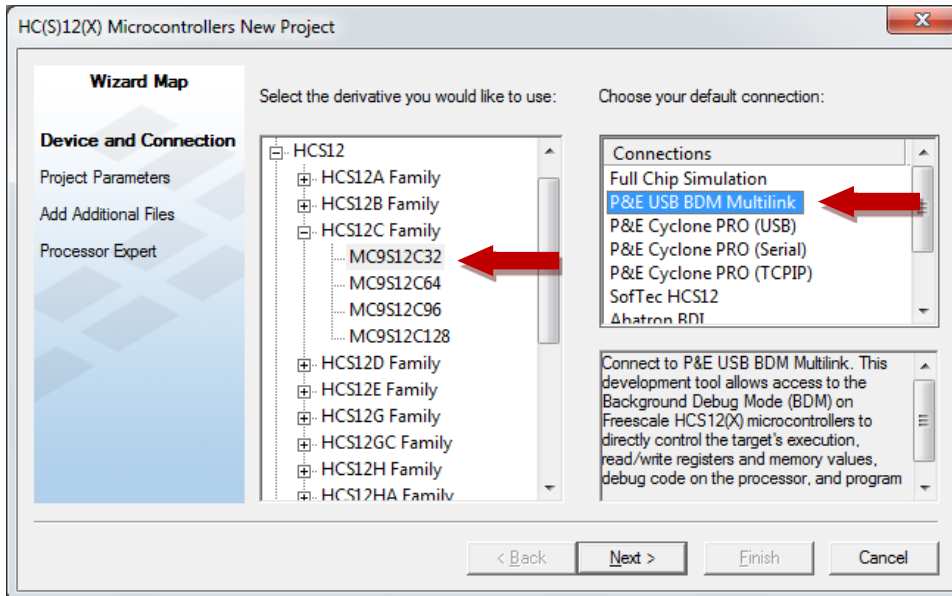

Figure 5. Device and Connection Form
- *Device and Connection Form*(Figure 5) - Select your processor derivative (MC9S12C32) and connection (**P&E USB BDM Multilink**). You may also select Full Chip Simulation if you wish to simulate the hardware.